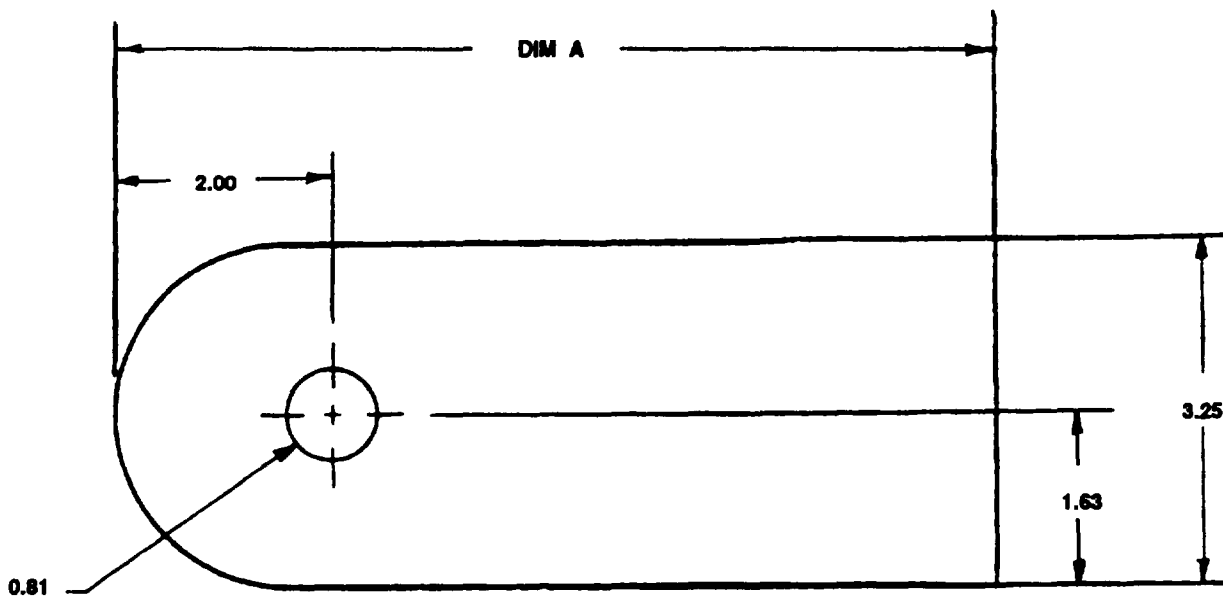

Figure G-9. Lower Mounting Block.
2. Make from 0.375 in. metal bar, NSN 9510-00-168-1715, P/N ASTM A36, according to specifications in Table G-4 and Figure G-9.